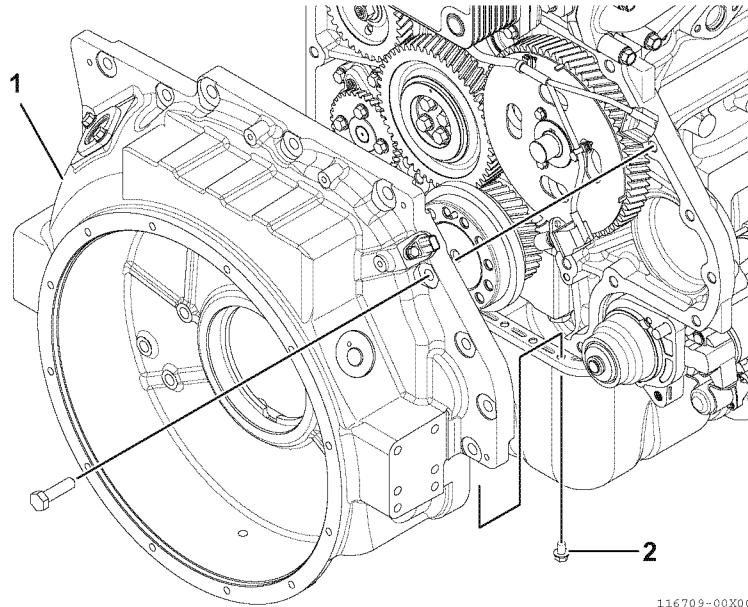

Fig.30-14
4. Wipe the crankshaft oil seal contact surface so it is clean, then install the flywheel housing (1, Fig.30-14) to the cylinder block and temporarily tighten the bolts. After temporarily tightening the bolts (2, Fig.30-14) that fasten the bottom of the flywheel housing and oil pan, tighten each of the bolts to the specified torque. The flywheel housing are heavy. Use a crane or similar means when installing them.